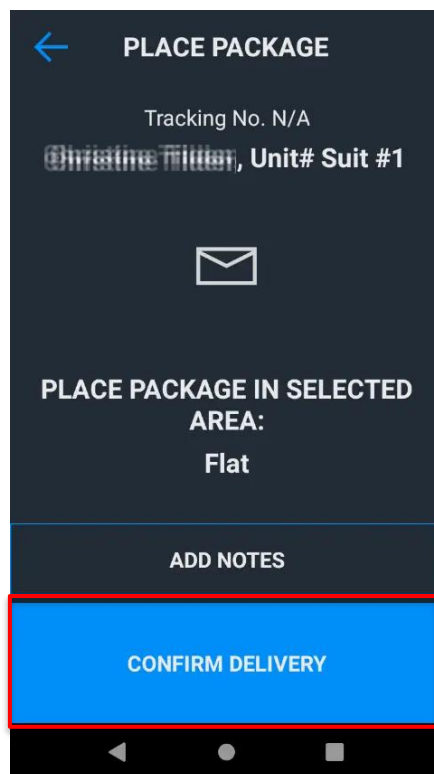

Figure 29: Confirm delivery of oversized package or flat
7. Tap **Confirm Delivery**. See Figure 29.